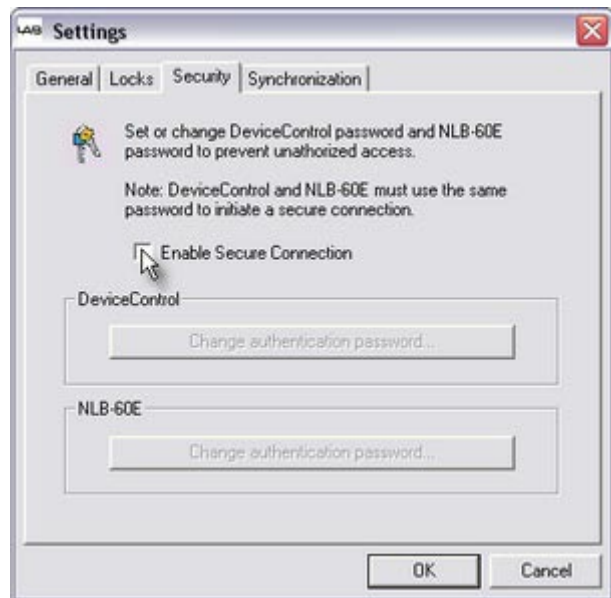

Figure 8.1
3. Check the "Enable Secure Connection" (Figure 8.1).